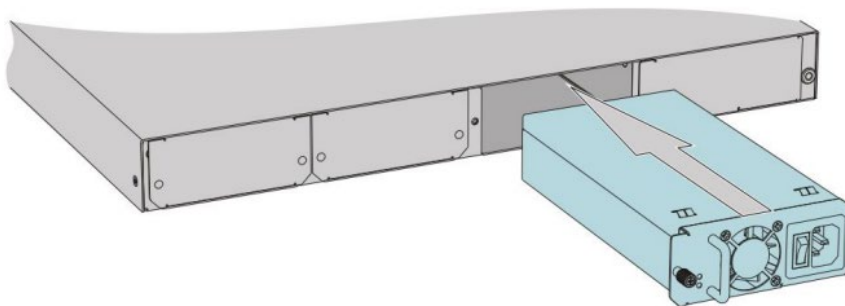

Figure 22: Installing the power module
- ☐ Put the power module into the power module slot of the device. See Figure 22.